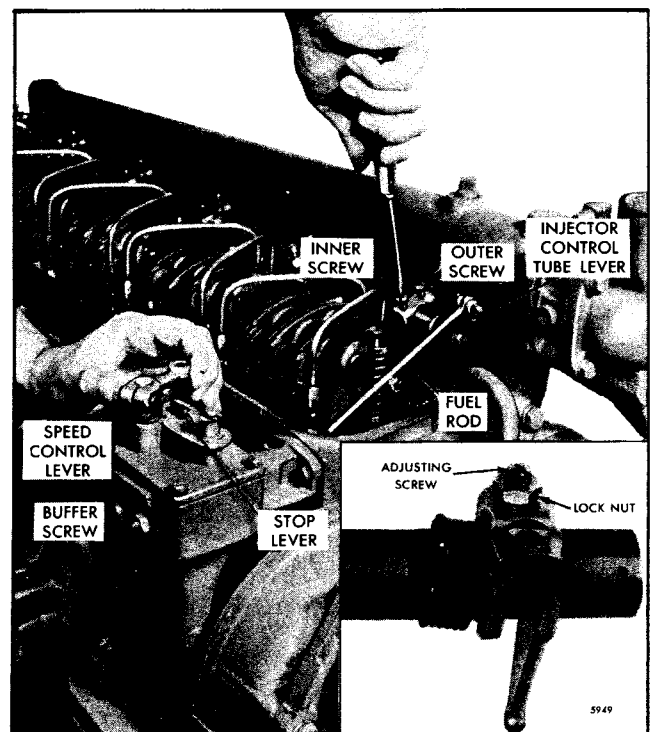

Fig. 3 - Positioning No. 1 Injector Rack Control Lever
5. Remove the fuel rod from the differential lever and the injector control tube lever (Fig. 3).
Adjust the No. 1 injector rack control lever (Fig. 3) first to establish a guide for adjusting the remaining injector rack control levers.
b. On the two screw injector control tubes turn the inner adjusting screw of the No. 1 injector rack control lever down (Fig. 3) until a slight movement in the control tube lever is observed or a step-up in effort to turn the screw driver is noted. This will place the No. 1 injector rack in the full-fuel position. Turn down the the outer adjusting screw until it bottoms lightly on the injector control tube. Then alternately tighten both the inner and outer adjusting screws.